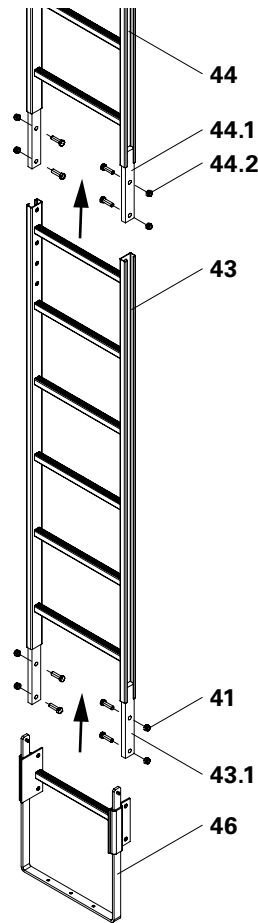

Fig. B4.01
3. Fix Ladder Base (**46**) to the connector (**43.1**) on the bottom Ladder in the same way using 4x bolts M12 x 40 and nuts. (Fig. B4.01)